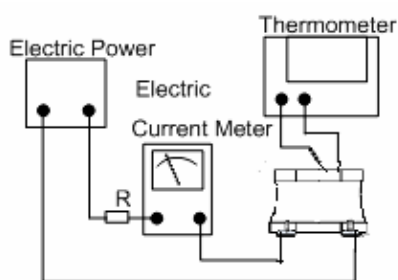

Fig. 5.3.4-1
- Definition of Temperature rise current: DC current that causes the temperature rise ($\Delta T = 40^\circ\text{C}$) from 20°C ambient (see Fig. 5.3.4-2).